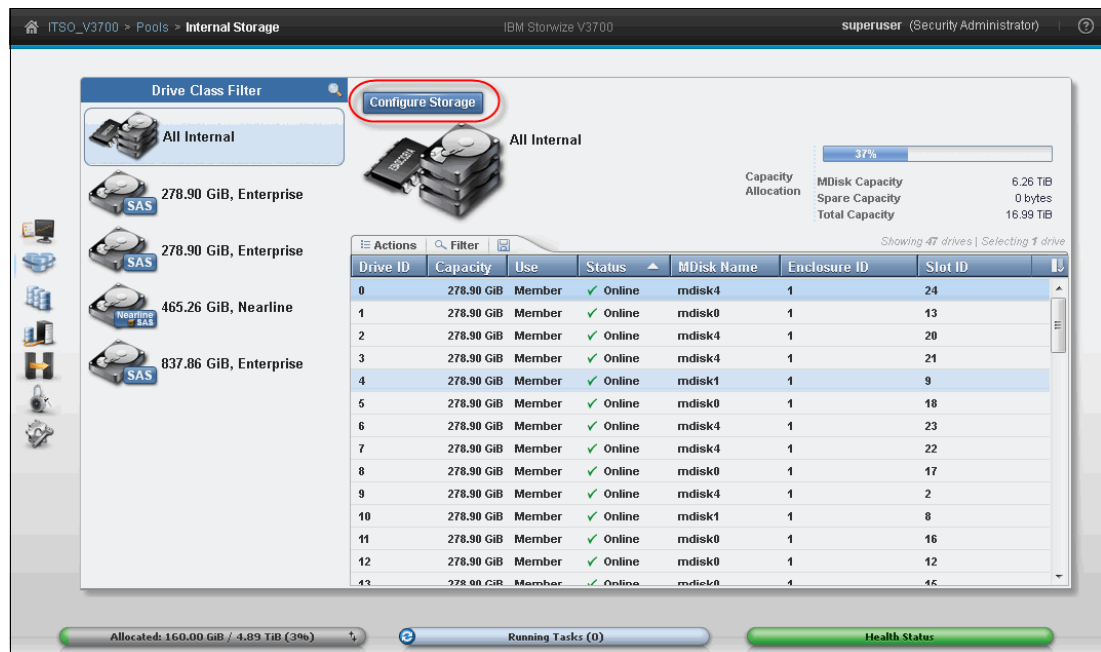

Figure 7-19 Configuring internal storage
1. Click **Configure Storage** in the **internal Storage** window as shown in Figure 7-19.